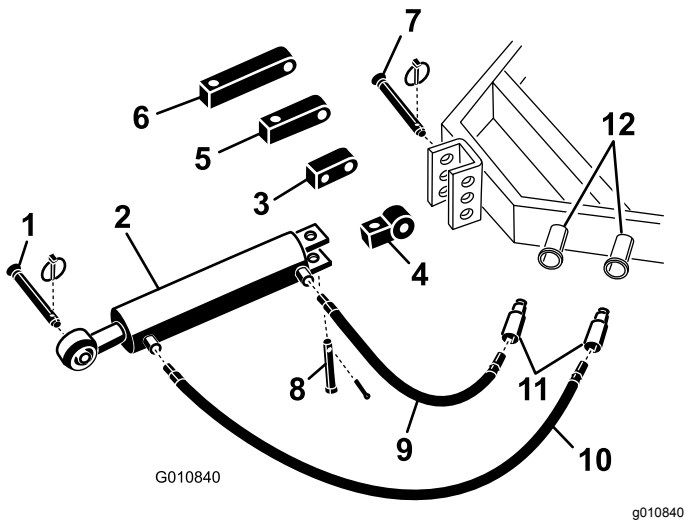

Figure 5
1. Secure the connecting link end of the hydraulic top link to the tractor with the pins supplied with the tractor (Figure 5). Position the hydraulic top link so the rod end is toward the aerator. The cylinder ports should be positioned toward the tractor's auxiliary power hydraulics.
Note: If the hydraulic cylinder must be positioned with the ports facing upward, use the rotational block instead of the standard mounting block to reposition the cylinder (Figure 5). A 90 degree hydraulic fitting may be used instead of the rotational block (fittings are not supplied).
(Figure 5). Remove the connecting link from the cylinder.
- B. Install the rotational block to the cylinder with the pins previously removed (Figure 5).
- Connect the 106 cm (3-1/2 foot) long hydraulic hose to the hydraulic top link port which is closest to the aerator Figure 5. Apply pipe-thread sealing tape or compound to the hose threads to prevent any leaks.
- Connect the 76 cm (2-1/2 foot) long hydraulic hose to the hydraulic top link port which is closest to the tractor (Figure 5). Apply pipe-thread sealing tape or compound to the hose threads to prevent any leaks.
If the hydraulic cylinder does not reach the aerator mounting bracket, use an extension block instead of the standard mounting block to connect the cylinder to the tractor (Figure 5).
- A. Remove the cotter pin and pin securing the standard connecting link to the cylinder (Figure 5). Remove the connecting link from the cylinder.
- B. Install the required length extension block to the cylinder with the pins previously removed (Figure 5).